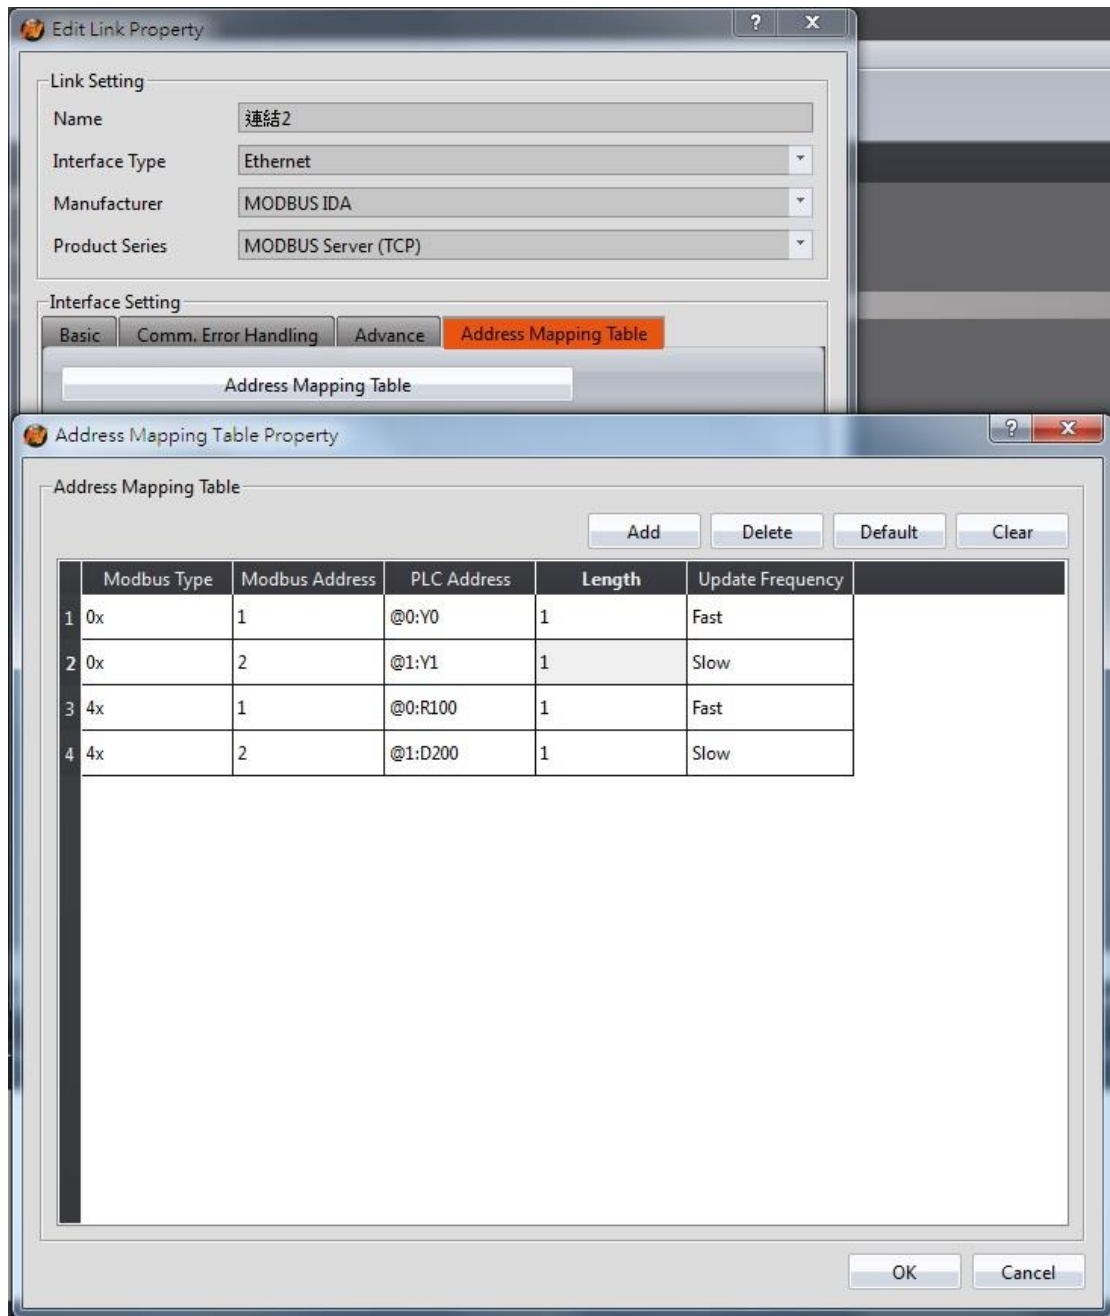

Figure 350 【 Address Mapping Table 】 Configuration
Step 3: Set the **【 Address Mapping Table 】** in accordance to Figure 350.